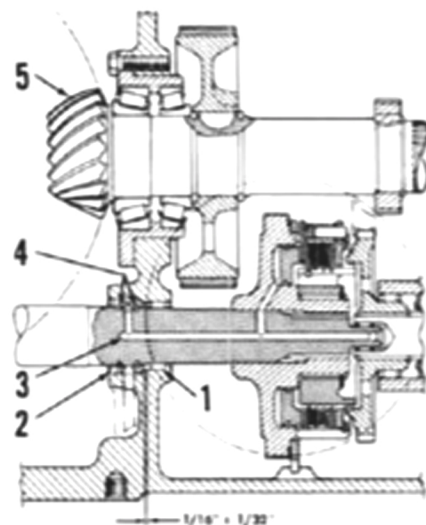

Fig. 166 - Sectional view of the pto clutch. Refer to text.
With unit disassembled, clean and inspect all parts and renew any showing excessive wear or other damage. Pay particular attention to the clutch discs which should be free of scoring or warpage. Use all new "O" rings, seals and gaskets during reassembly. The bushing (2 - Fig. 166) for the 1000 rpm output shaft or lower drive shaft is in the front of differential compartment. This bushing should be renewed if a new output shaft is required or if the sealing rings have grooved the bushing. When installing bushing (2), bottom it in bore.
Position the needle bearing to within 1/16-inch plus or minus 1/32-inch of the front face of bushing as shown in Fig. 166.